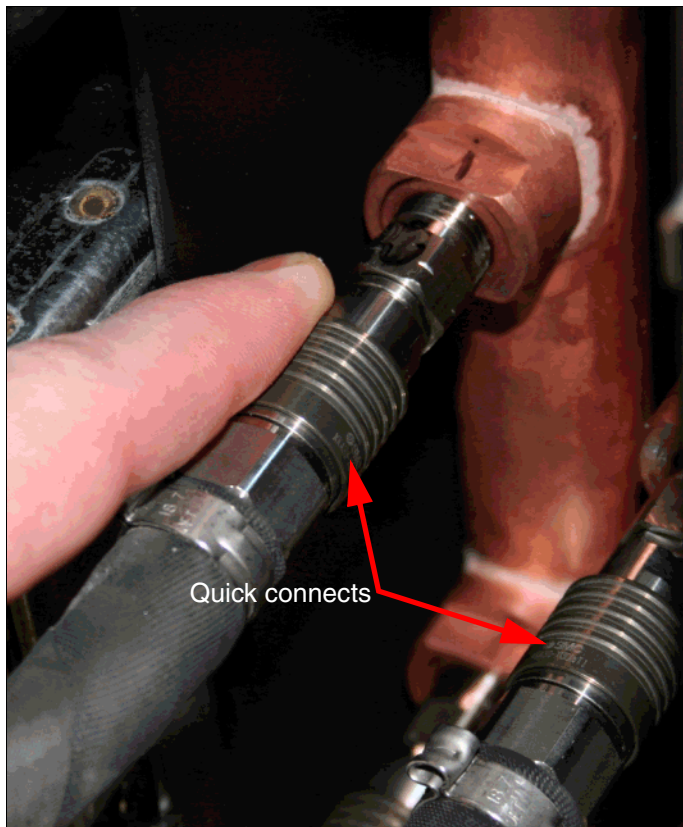

Figure 4-5 Node board coolant hose quick connects
- b. While gripping the node board quick connects, keep a firm grip on the hose assembly near the quick connect with fingers and thumb to maintain control of the hose for quick reconnect if needed. See Figure 4-5.
- c. Slide the quick connect retaining ring back to release the coolant hose from the manifold. Figure 4-5 shows the quick connects for the node board.